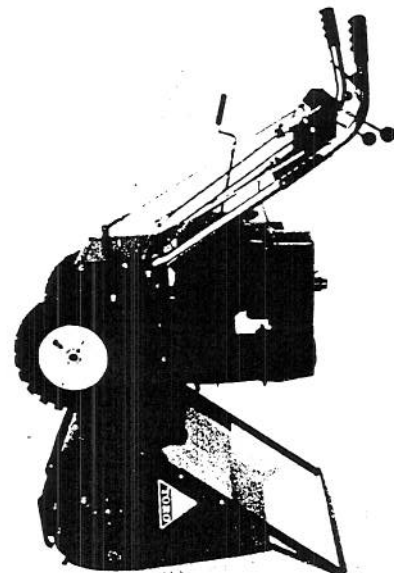

Figure 38
8. If snowthrower is equipped with the optional, drift breaker storage bar, the snowthrower may be stored in upright position (Fig. 38). Make sure to drain gas before tipping snowthrower upright on auger housing.